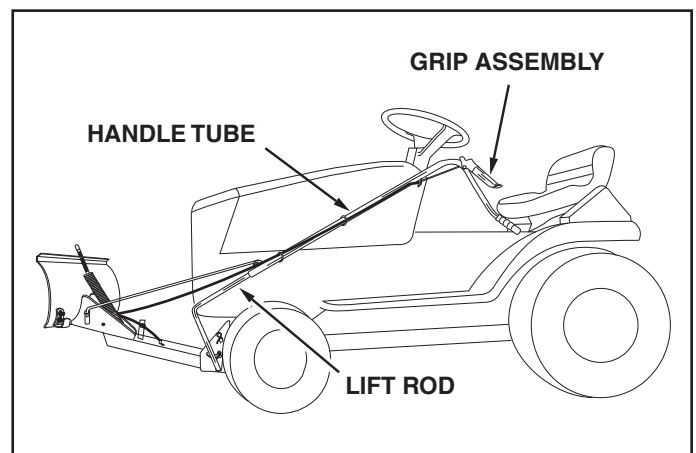

FIGURE 23
- Raise the blade to transport position. To unlock the blade, push the grip assembly down against the handle tube. To pivot the blade, keep the grip depressed and push forward or pull back on the handle tube, sliding it along the lift rod. Release the grip to lock the blade when it is in either the right hand, the left hand or the straight ahead position. See figure 23.